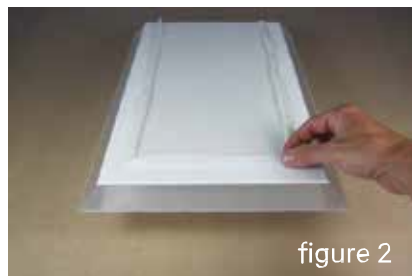

figure 2
2. Pull protective paper back approximately 30mm from internal edges to expose Lightblocks backing (see figure 2)